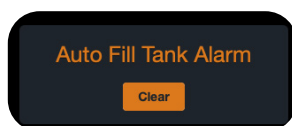

Figure 4.22 - Auto Fill Tank Alarm
**AUXILIARY FLUID RESERVOIR PUMP ALARM window:** This pop up window appears if the alarm is triggered because the fluid level failed to reach the next higher level within the amount of time selected for the Auto Fill Timeout value. When the pop up window appears, you can either click Acknowledge Alarm or Clear Alarm. If you click Acknowledge Alarm, the pumping of fluid stops and a small alarm window (Figure 4.22) appears in the bottom right of the browser window. If you click Clear Alarm, the alarm is cleared, pumping of fluid continues and the fluid level must reach the next higher level within the time selected for the Auto Fill Timeout value otherwise the alarm will appear again.